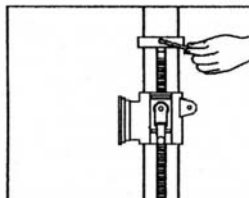

fig.3
- 2-3 Install collar and fix it firmly. Fig. 3